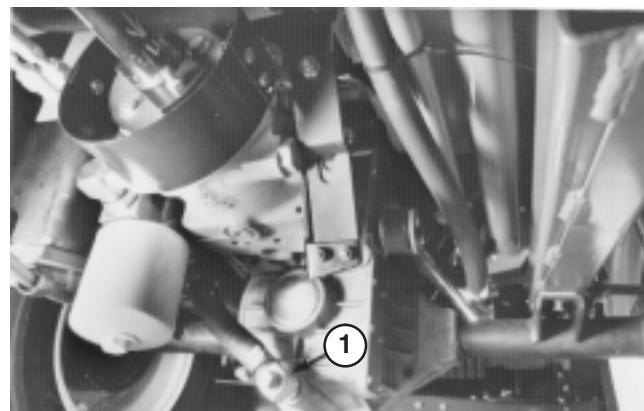
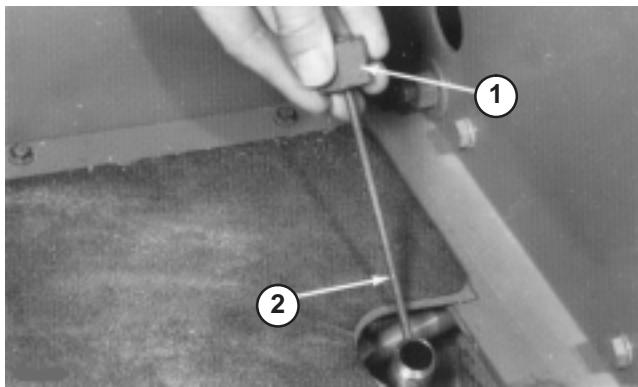

Figure 72
Figure 73
4. Remove drain plug from fitting between axle housing and oil filter and allow fluid to flow into drain pan (Fig. 72).
6. Install drain plug in fitting between axle housing and filter (Fig. 72).
7. Remove dipstick from axle filler tube (Fig. 73) and fill axle to proper level with correct type of hydraulic fluid; refer to table above.
9. Leave machine set for two additional minutes, then remove dipstick and check fluid level in axle (Fig. 73). If level is low, add fluid until level matches groove in dipstick (Fig. 73). If level is too high, remove drain plug (Fig. 72) and drain fluid until level matches groove in dipstick.